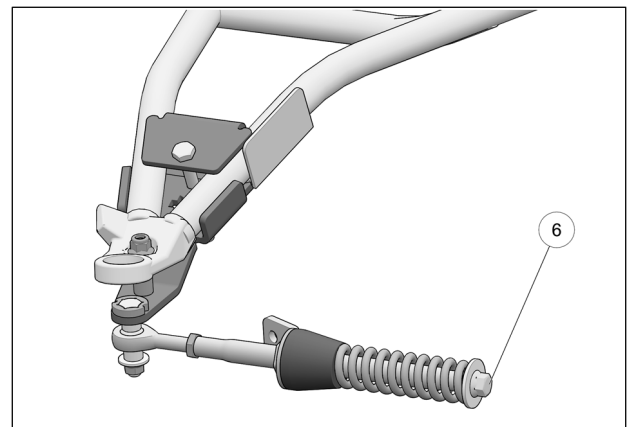

Fig. 19
- Verify that spring assembly bolt (**6**) is tightened to the recommended torque specification: 75 N•m [55 lb•ft]. Refer to Fig. 19